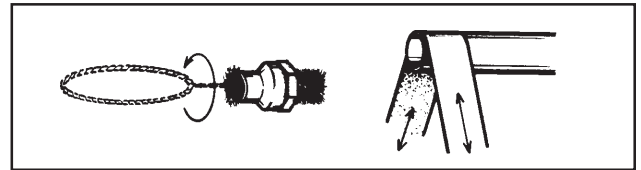

FIGURE 21.
4. Cleaning and brushing the piping and fittings is one of the most important aspects of sweat connections. Clean the ends of each piece of copper pipe with emery cloth as shown. Clean the inside of each sweat fitting with the wire brush as shown. Make sure you do not touch the cleaned areas, see Figure 21.